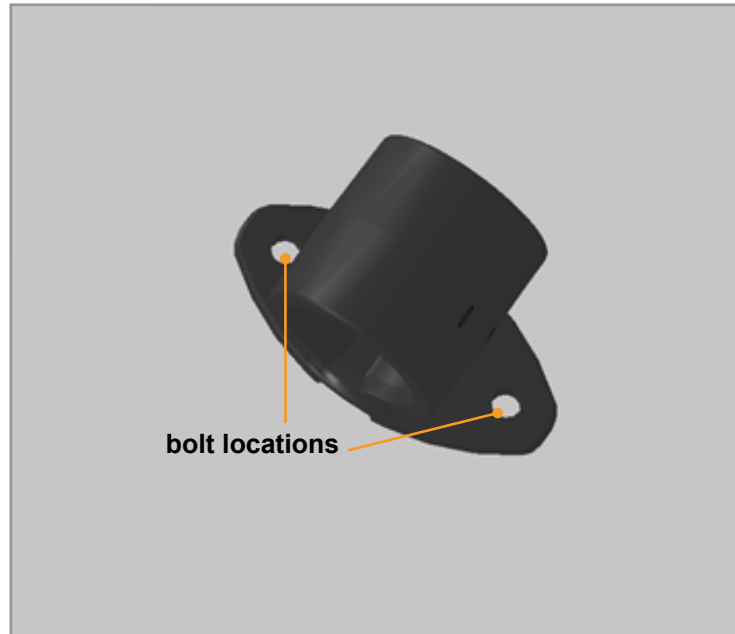

Fig.5
2. At the locations marked in the previous step drill two clearance holes for 1/4"-20 X 1 1/2" bolts at each grab bar clamp as shown below (**Fig. 5**). Loosely install mounting hardware (not included) to hold in place.